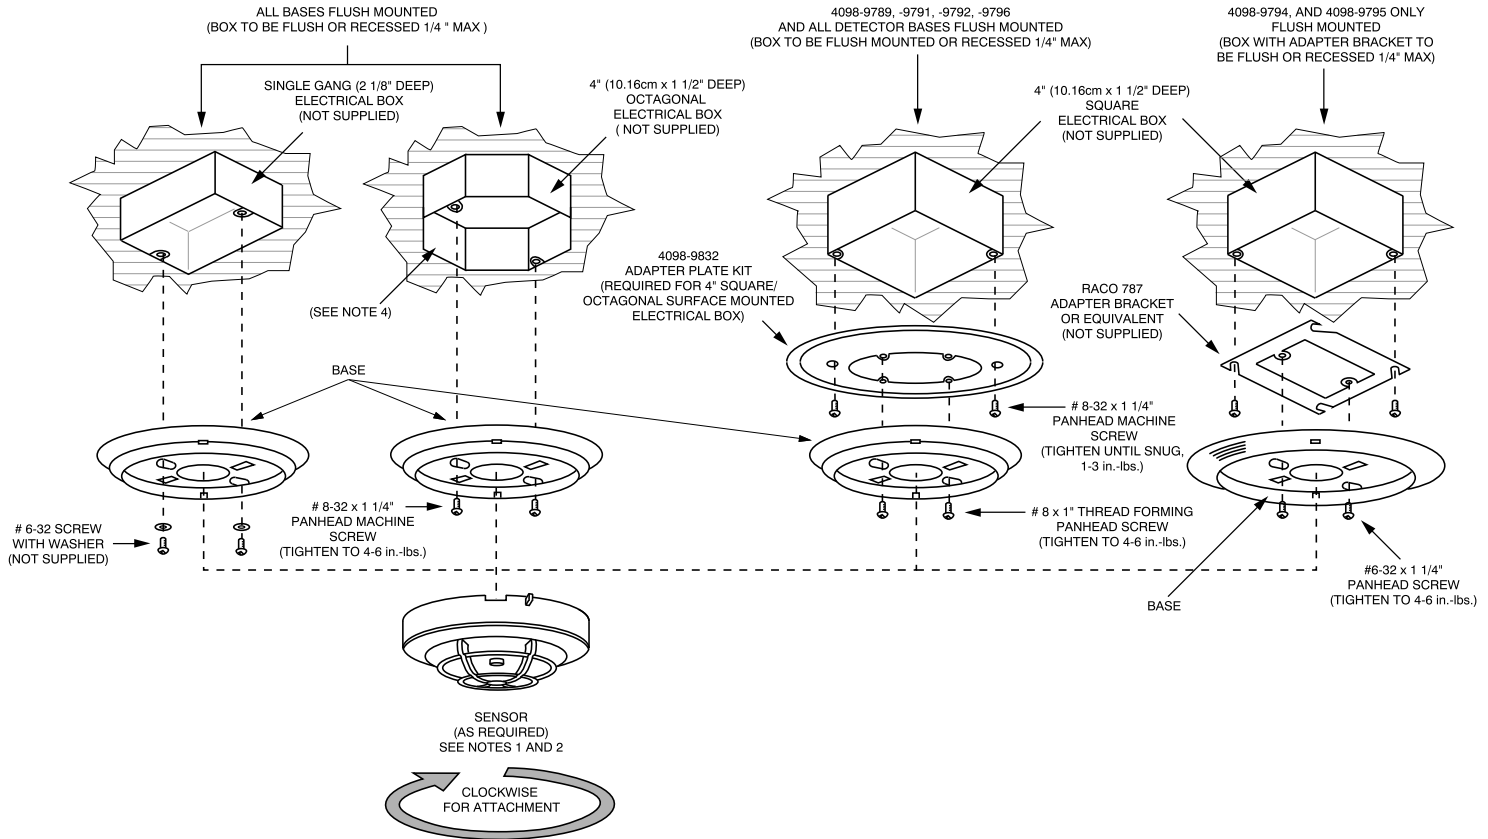

Figure 2-1. Typical Detector/Sensor Mounting
All smoke detectors identified in Table 2-1 mount to a detector base (refer to the “4098 Bases” section of this chapter for more information). Use the following considerations and Figure 2-1 when mounting smoke detectors.
All heat detectors identified in the table below mount to a detector base (refer to the “4098 Bases” section of this publication for more information). Use the information in Figure 2-1 when mounting.
1. Break off plastic lock tab to engage locking mechanism. To lock detector/sensor into base, turn unit until the locking tab clicks into place. To unlock detector/sensor, insert the blade of a screwdriver into this slot and then pull down on handle. This action allows the detector/sensor to be turned and removed (see Figure 2-1).
All sensors identified in Table 3-2 mount to a sensor base (refer to the “4098 TrueAlarm Sensor Bases” section of this chapter for more information). Use the following information and Figure 2-1 when mounting TrueAlarm sensors.